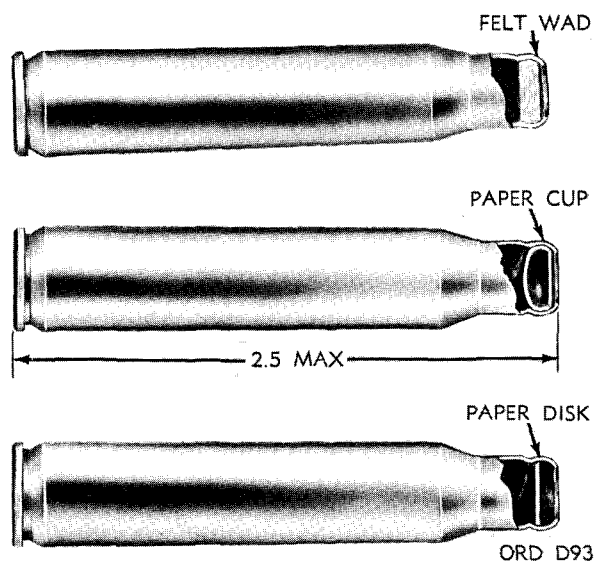

Figure 27. Cartridge, caliber .30 blank: M1909.
*b. Components.* In manufacture, a paper cup or wad of thin paper is inserted in the neck of the case against the cannelure and sealed in place with lacquer (fig. 27). The mouth of the case is then crimped to keep the cup or wad in place. Cartridge cases having minor imperfections, or reused cartridge cases can be used in the assembly of this type of ammunition. Steel cases are approved as a substitute when the supply of brass is critical.